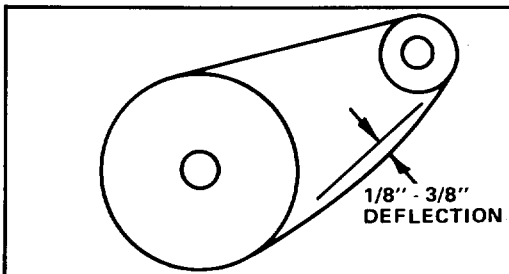

Figure 30
1. Check deflection of chain by lifting up on chain with moderate pressure at mid span. There should be 1/8-3/8" deflection (Fig. 30). If deflection is not as specified and adjustment is required.